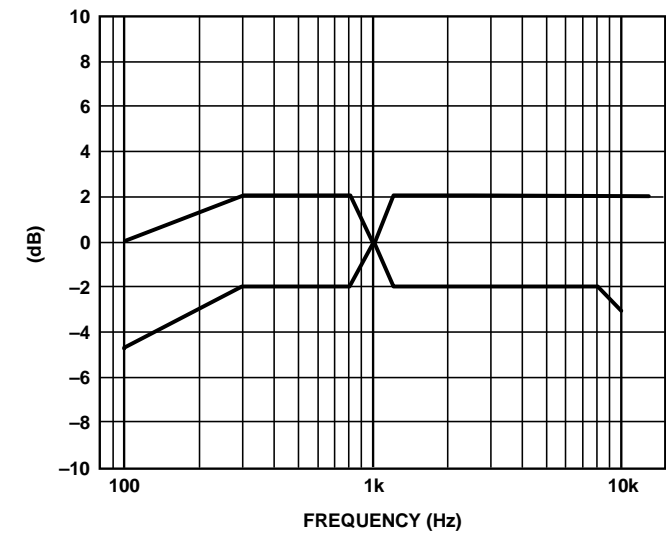
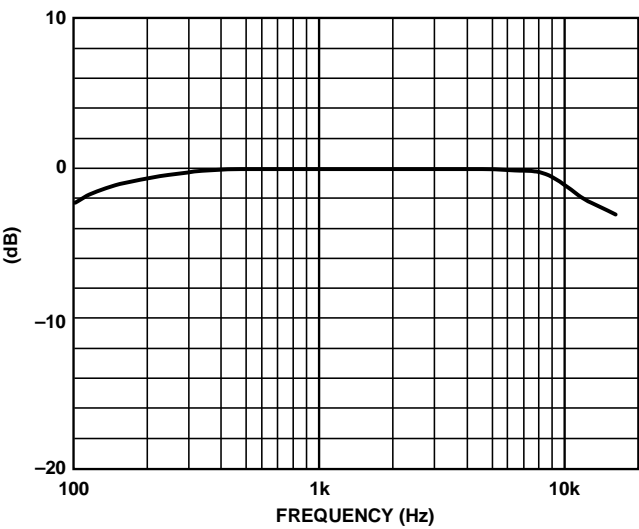

Figure 4. Frequency Response Mask
Figure 5. Typical Frequency Response (Measured)
**Note 2:** See Figure 4 and Figure 5.